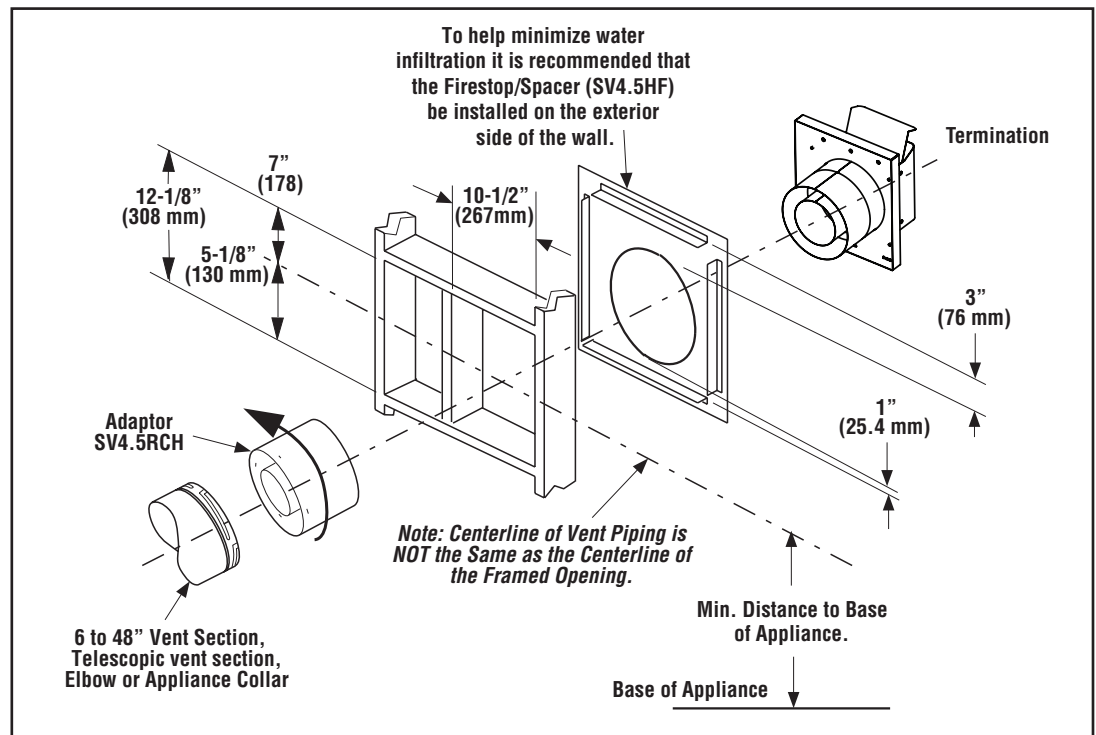

Figure 9 - Installing the Horizontal Termination
2. **Assemble the vent run to the exterior wall**—If not previously measured, locate the center of the vent at the exterior wall. Prepare the opening. Assemble the vent system until the terminus of the last section is within 7" (178 mm) to 11-1/4" (286 mm) inboard of the exterior surface to which the SV4.5 HT termination is to be attached (*Figure 9*). If the terminus of the last section is not within this distance, use the telescopic vent section SV4.5LA, as the last vent section. **Table 1, Page 16** lists the additional venting components needed (in addition to the termination and adaptor) for a range of wall thicknesses.
3. **Attach the termination adaptor**—Attach the adaptor (SV4.5RCH, provided with the termination) to the vent section or telescoping vent section, elbow or fireplace collar (*Figure 9*).
4. **Install the firestop/spacer at the exterior wall**—When using the square termination, install SV4.5HF Firestop/Spacer over the opening at the exterior side of the framing, long side up, with the 3" spacer clearance at the top (*Figure 9*) and nail into place.